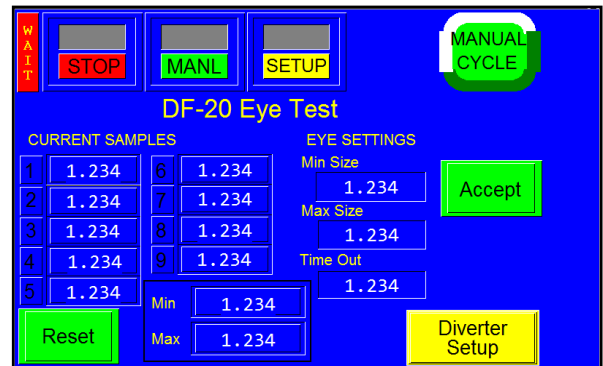

Figure 3-25
**Parts Length Test (Eye Test):** With the Part Diverter option turned on, press the **Reset** button on the Eye Test screen, See Figure 3-25. Toggle the <START / STOP> toggle button to <STOP>. Then, drop parts (samples) individually through the photo sensor / funnel. The Min and Max values at the bottom of the screen will change as parts are dropped through the eye. If parts will be fed automatically, parts should pass through the eye as they would if feeding automatically.